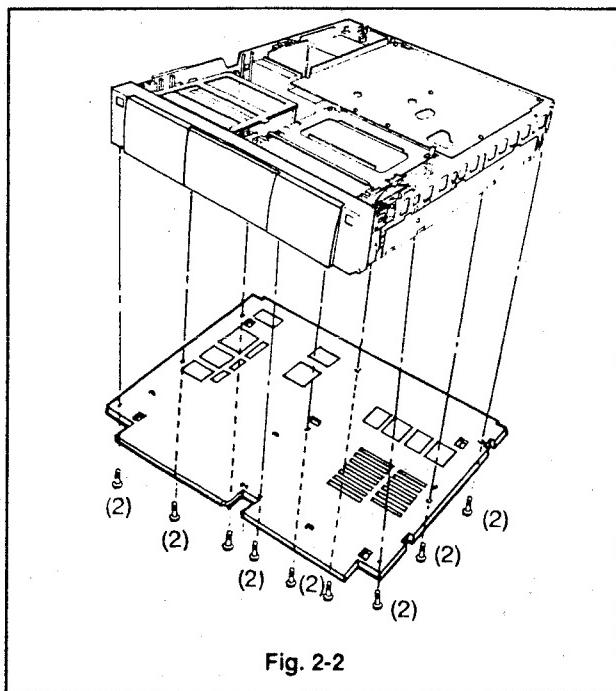

Fig. 2-2
- A. Remove the Bottom Cover. (Fig. 2-2)
- B. Release 4 screws (5).
- C. Remove the Power C.B.A in the direction of arrow (B).
- A. Release 2 screws (6).
- B. Remove the 8mm Main C.B.A in the direction of arrow (C).
- A. Release 2 screws (7).
- C. Release 3 screws (8).